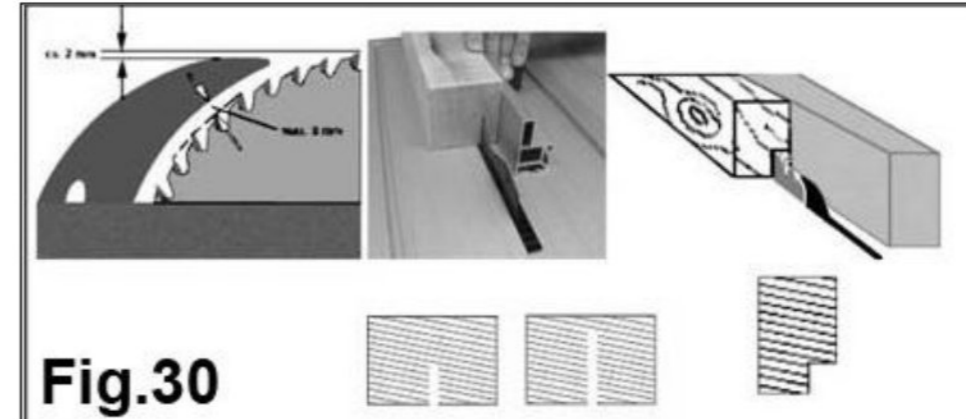

Fig.30
1. Pull down the riving knife so that the tip of the latter, range 2 mm above the upper edge of the saw tooth **Fig.30**.